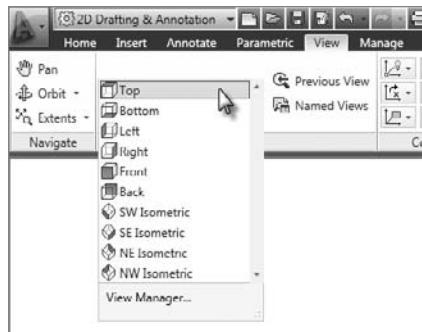

FIGURE 1.9 Selecting the Top option from the Views Ribbon panel
- If you're not still on the View tab, click the View tab > Views panel > Top, as shown in Figure 1.9. This procedure ensures that your view is perpendicular to the drawing area. It should be as though you were looking straight down at a piece of paper on a drawing table.